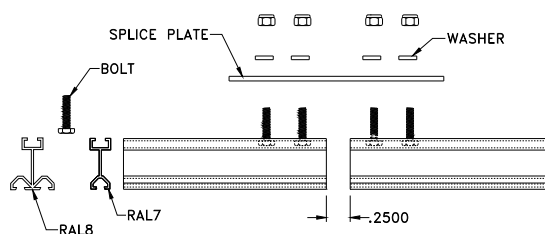
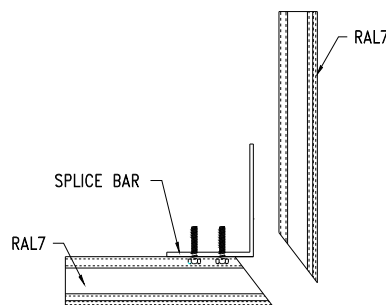
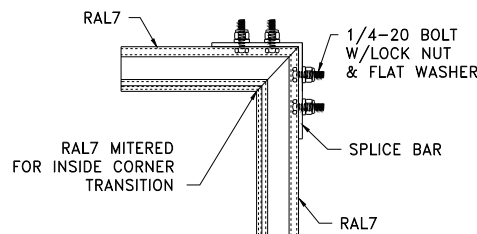

Figure 15
Figure 16
Figure 18
STEP 21. If the subchannels (RAL7 or RAL8) must be spliced, use the splice bars and anchors provided by the factory. Slide two splice anchors into each mating subchannel's raceway. Leave a 1/4" gap between the abutting sections of subchannel (RAL7 or RAL8) and attach the splice bar to the mating sections of the subchannel as shown in Figure 15. Tighten the top two splice bar bolts, leaving the other splice bar bolts loose. Refer to Figure 16 through Figure 18 for other subchannel transition configurations.